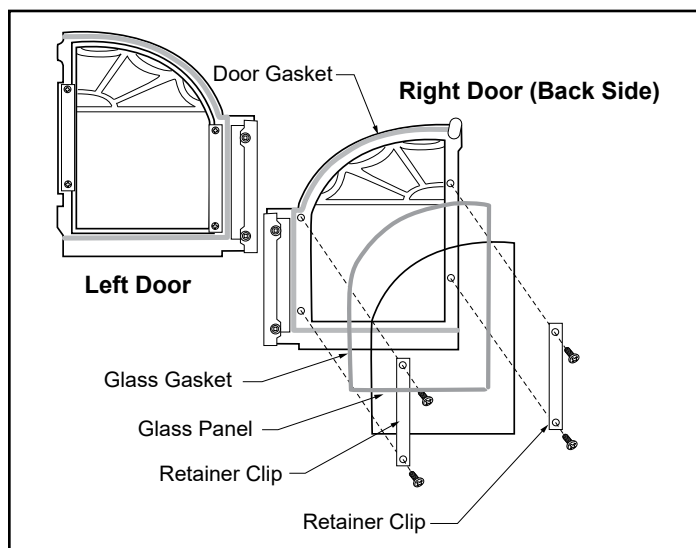

Figure 6.1 - Exploded view of the glass assembly for the right door.
2. Secure the glass on both doors with the retainer clips. Tighten all screws, Figure 6.1.